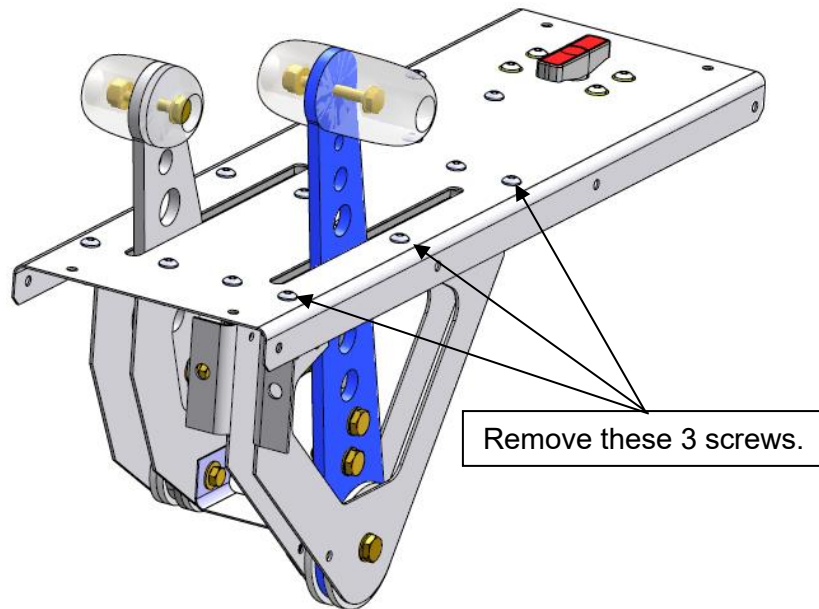

Figure 4
Step 4: Remove the 3 screws attaching the outer bracket to the top mount plate of the throttle quadrant. Refer to Figure 4.